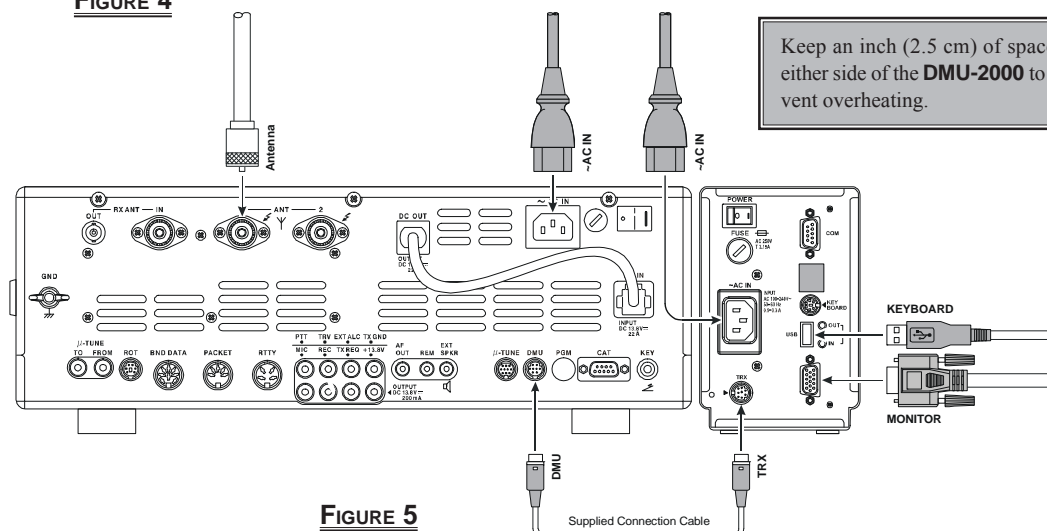

FIGURE 5
8. Connect the transceiver, Data Management Unit, after-market Display, and after-market Keyboard (if used) as shown in Figure 5.